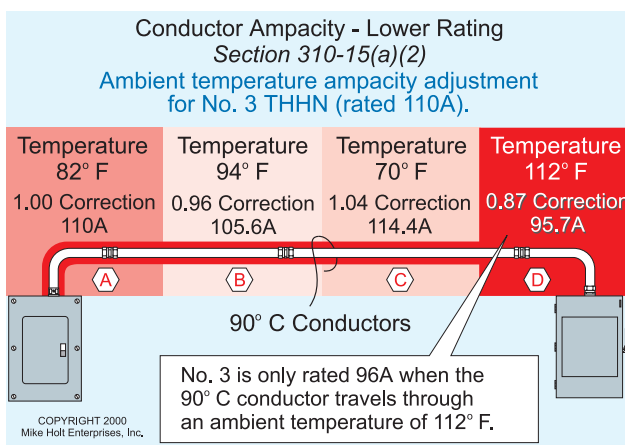

Fig. 2. Ambient temperature ampacity adjustment for No. 3 THHN (rated 110A).
Q. What's the circuit ampacity for three No. 3 THHN conductors run in a raceway through the ambient temperature zones, as shown in Fig. 2, on page 68?